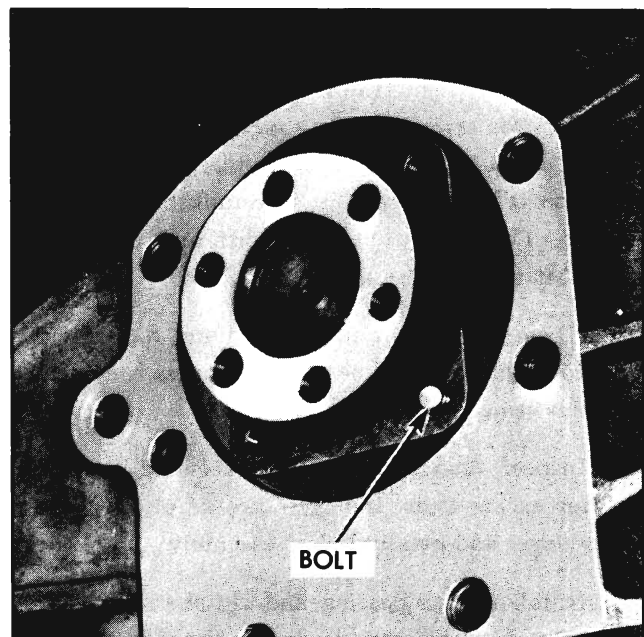

Fig. 6D-6 Retaining Plate Bolt
12. Remove retaining plate bolts (Fig. 6D-6).